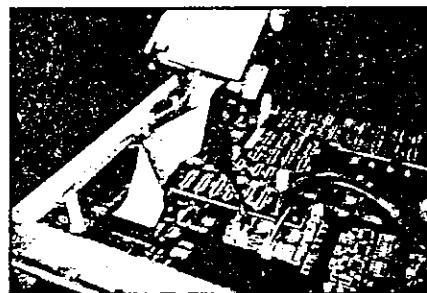

Fig. 3-4. Drive Cable Locations
**3.3.1** Position the drive over the PCB and re-connect the ground wire at T4. See Fig. 3-4.